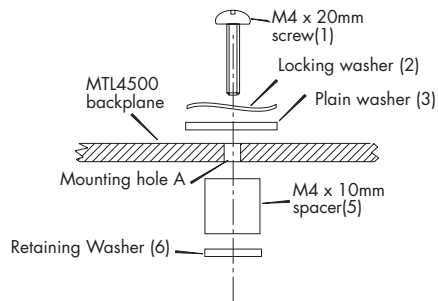

Figure 4.2: Surface mounting
- Fit each M4 x 20mm screw (1) with a locking washer (2) and a plain washer (3) (Figure 4.2).
- Fit each with an M4 x 10mm spacer (5) and a retaining washer (6) (Figure 4.2).